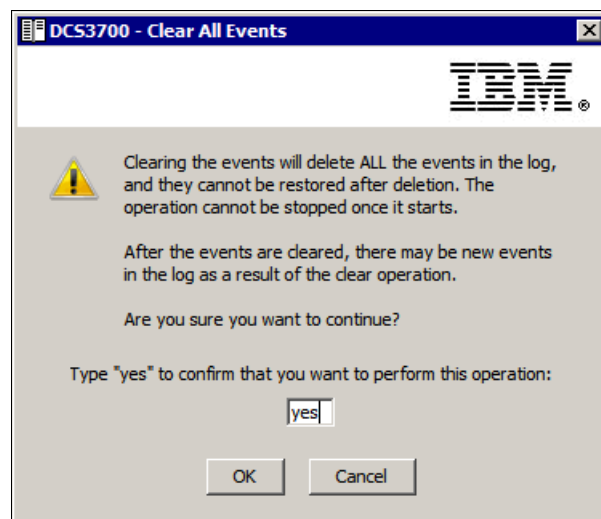

Figure 13-36 Event view - Confirm Clear All Events
- ▶ Clear All: Select this option to clear the event log. In the confirmation window (Figure 13-36), enter yes to delete all the events. Save all event logs before you clear the log.